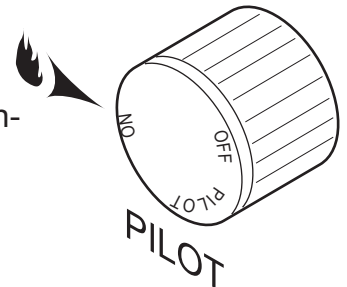

Figure 47 - On Position
Depress and turn the knob counterclockwise  to the “ON” position. *Figure 47*. It will take less than four (4) seconds for the burner to ignite.